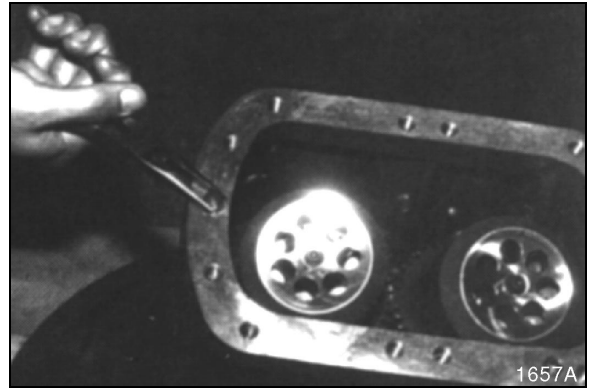

Figure 64
2. Remove parallel pin. See Figure 64.